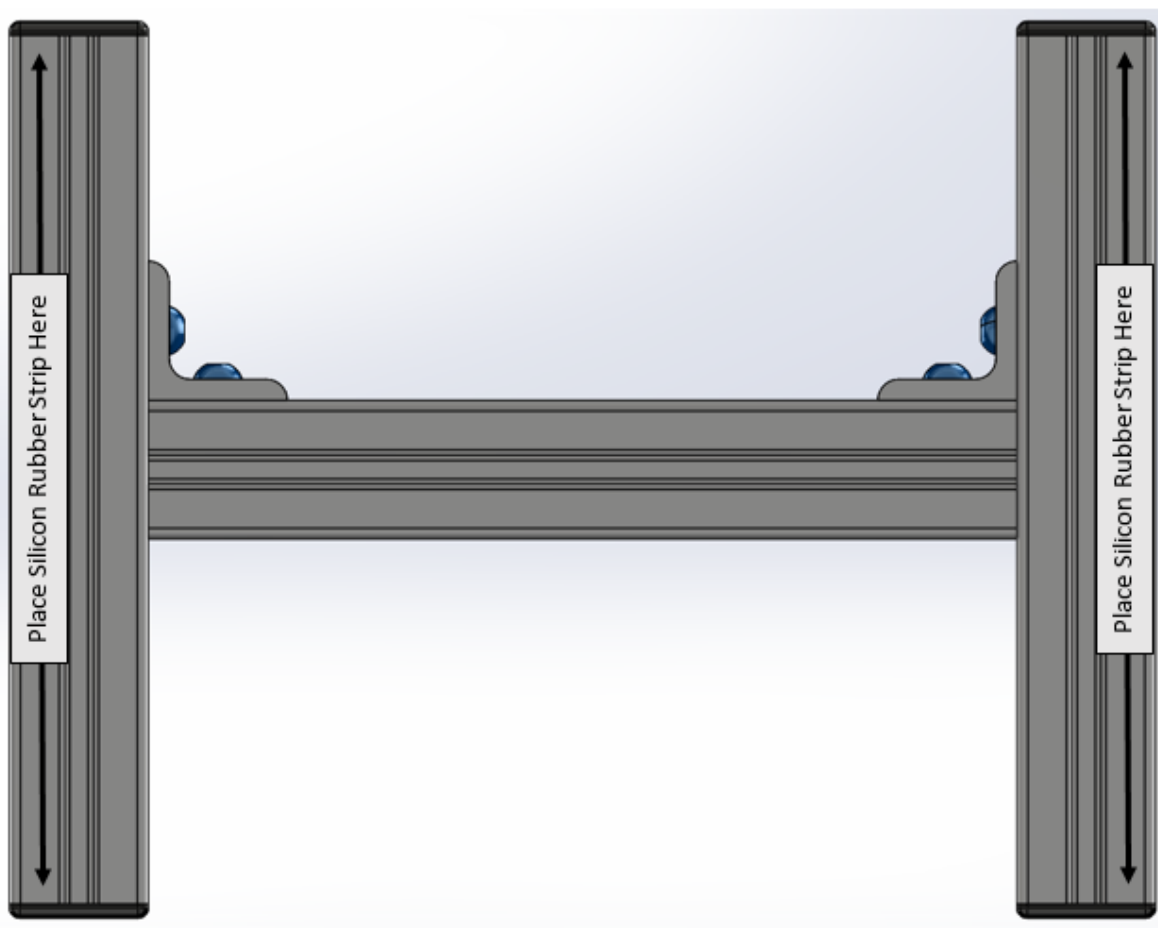

Figure 8. Placement of silicon rubber strips
2. Cut and apply (2) 25cm silicon rubber strips to the underside of the base to prevent sliding (Figure 8).